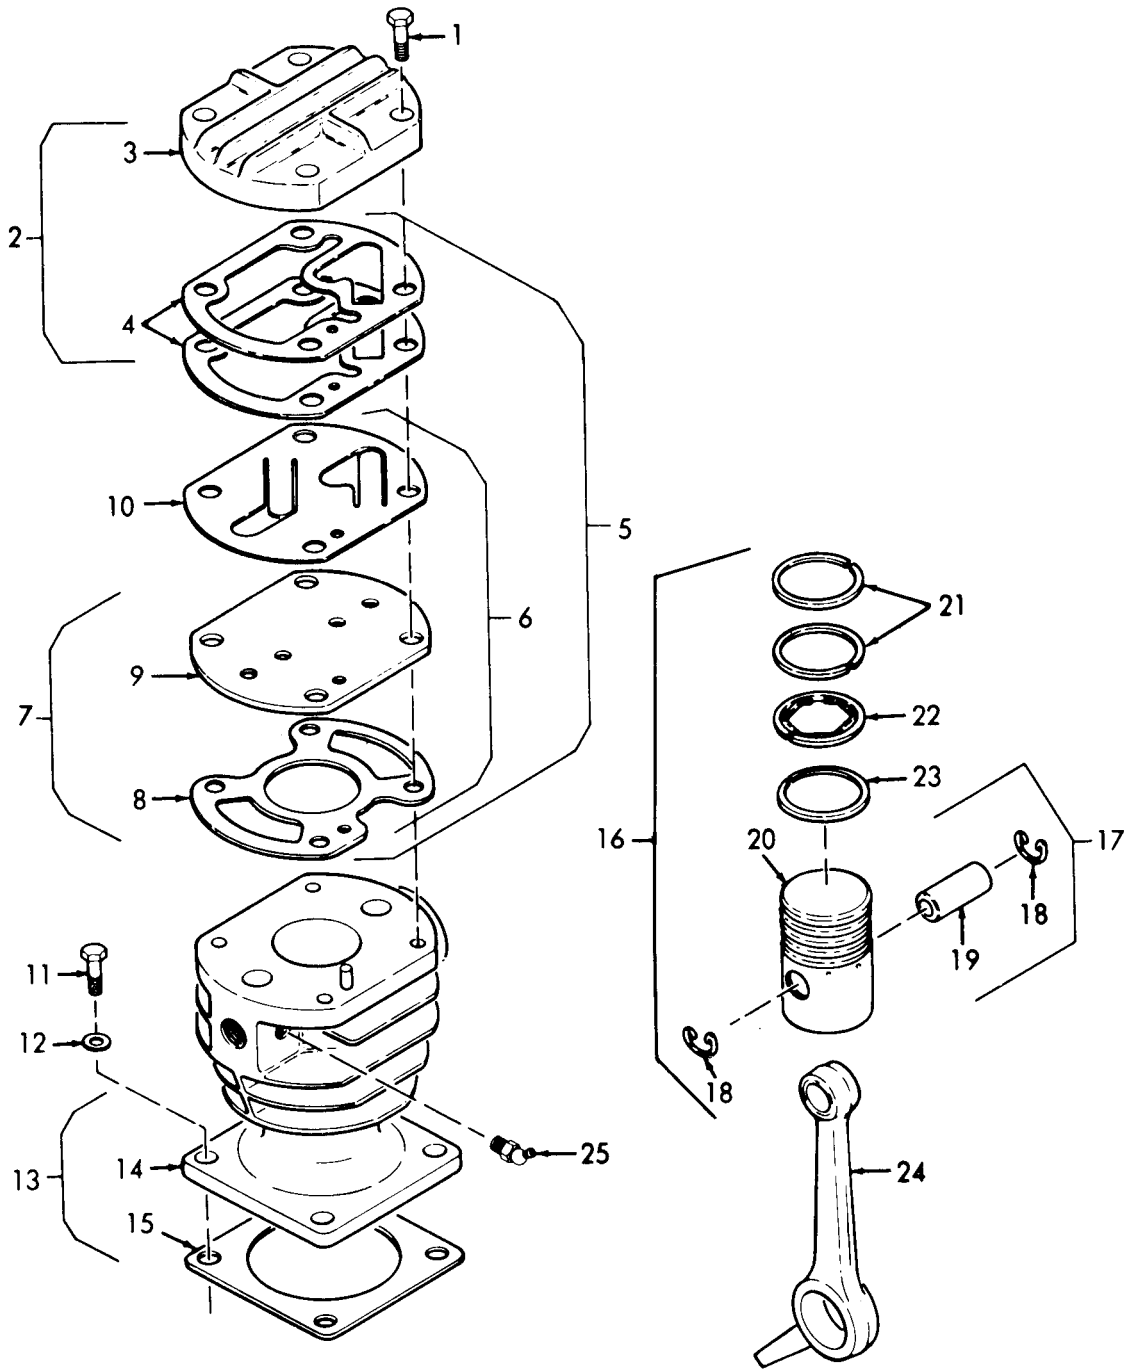

Figure 14-9. High Pressure Cylinder, Pistons, Rod, and Rings, Exploded View.
(4) Refer to figure 14-9, and remove the high pressure cylinder, piston, rod, and rings in numerical sequence.
## LEGEND FOR FIGURE 14-9:
- (3) Place gasket (15) in position around shaft, then install shaft end cover and seal as described in caution above. Secure cover with four steel washers (12) and capscrews (11). Install connector tube (10) and breather tube (9) in frame (17), then install nipple (7), coupling (6), and plug (5).
Refer to figure 14-9 for steps (4) through (9).
- (4) Install connector (25, figure 14-9) and connecting rod (24). Check clearance between crankpin bushing and connecting rod. It should be between 0.001 and 0.002 inch. If clearance is 0.0025 inch replace bushing and connecting rod.
- (5) Measure the clearance between piston pin (19) and piston (20). This is a very close tolerance. It should be between 0.0003 inch and 0.0009 inch. If clearance is as much as 0.0012 inch replace pin and piston. Install pin (19) through rod (24) and piston (20), and secure with the lockrings (18).